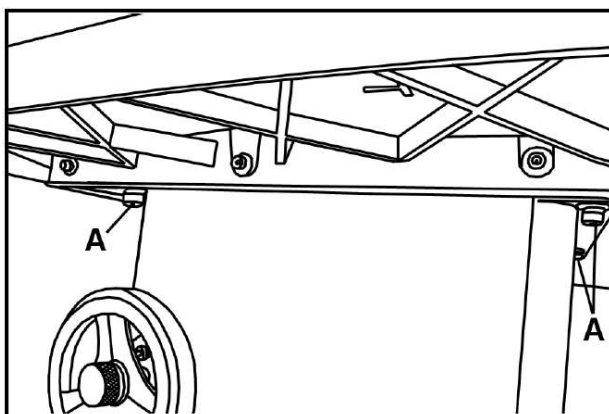

Fig.25: Adjust Trunnions to Align Blade and Miter Slot
2. If an adjustment is necessary, loosen the screws (B) as **Fig.25** which fix to the table, make the needed adjustment until both measurements are equal or less than 0.2mm. and retighten the screws.